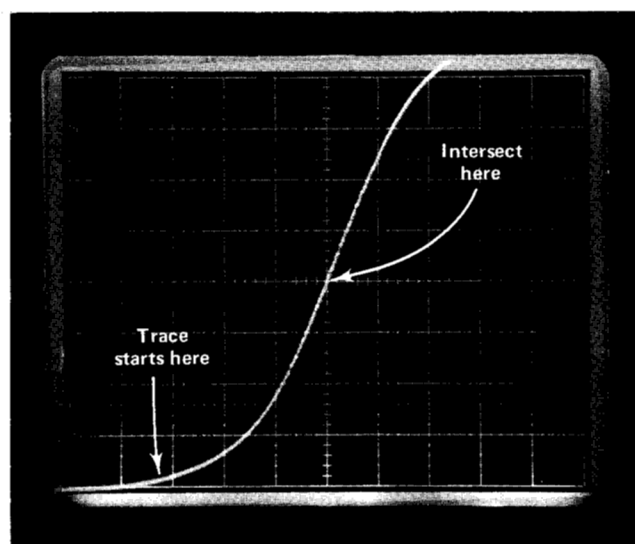

Fig. 5. +INPUT signal.
4. Use the Time-Domain Reflectometer controls to obtain a full graticule display of the rising portion of the pulse. Adjust the controls so that the pulse starts at the lower left side of the graticule and intersects the graticule center lines, see Fig. 5.